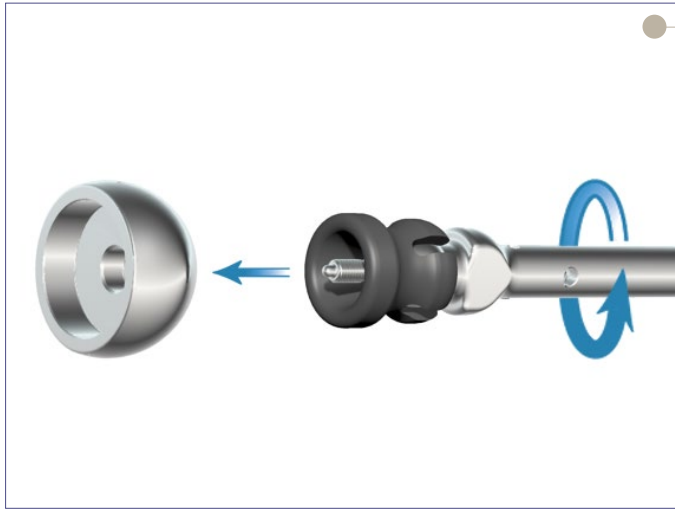

Figure 54
- ▶ Engage the desired definitive Glenosphere on the Glenosphere Holder/Impactor and place the Glenosphere onto the Glenoid Baseplate [Figure 54].